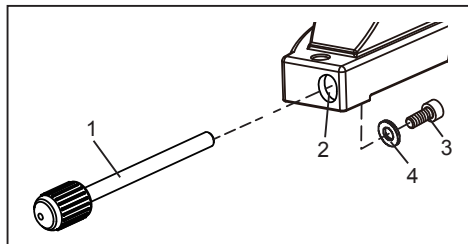

FIG. 29
INSTALLING THE REAR SUPPORT RODS (FIG. 29)
1. Put the rear support rod (1) against the hole (2) located at the rear of the base as shown in Fig. 29.
2. Tighten the rear support rod (1) by threading the bolt (3) through the washer (4), the hole (2) and into the rear support rod (1).
3. Tighten the bolt (3) with a 4 mm hex wrench.